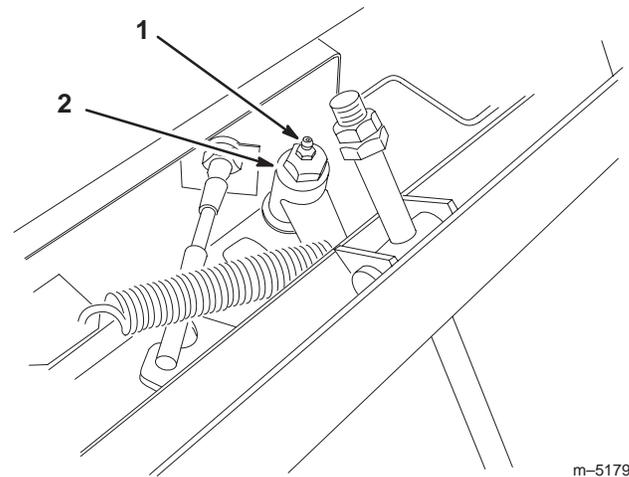

Figure 33
4. Loosen lock nut on adjustment cam (Fig. 33).
5. Start engine and rotate adjusting cam in either direction until wheels stop rotating (Fig. 33).
6. Stop engine and tighten lock nut to secure adjustment (Fig. 33).